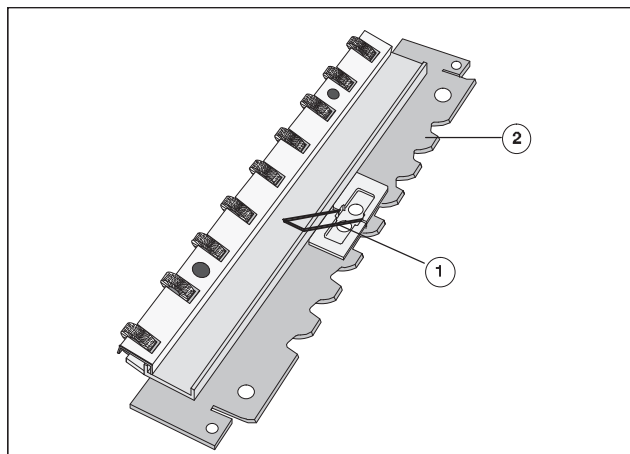

Fig. 34 Guide plate with brush rollers
1. Insert clamp (Fig. 34/1) for mounting the sheet monitor on the guide plate with brush rollers (Fig. 34/2).